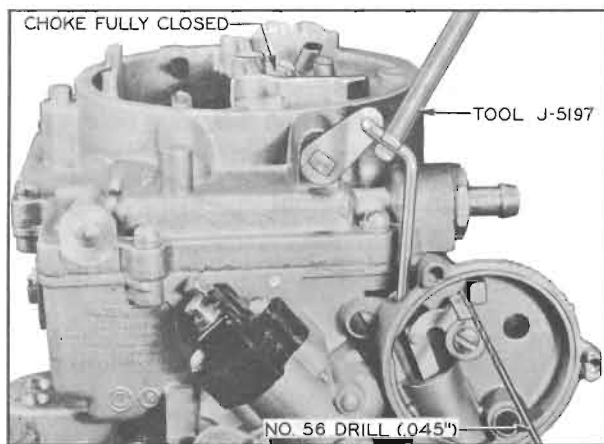

Figure 3-54—Choke Piston Adjustment
18. *Adjust Choke Rod.* With choke valve tightly closed, check clearance between choke piston lever and stop in housing using a No. 56 drill (.045"). To adjust, place Tool J-5197 on upper section of rod and bend as required. See figure 3-54.